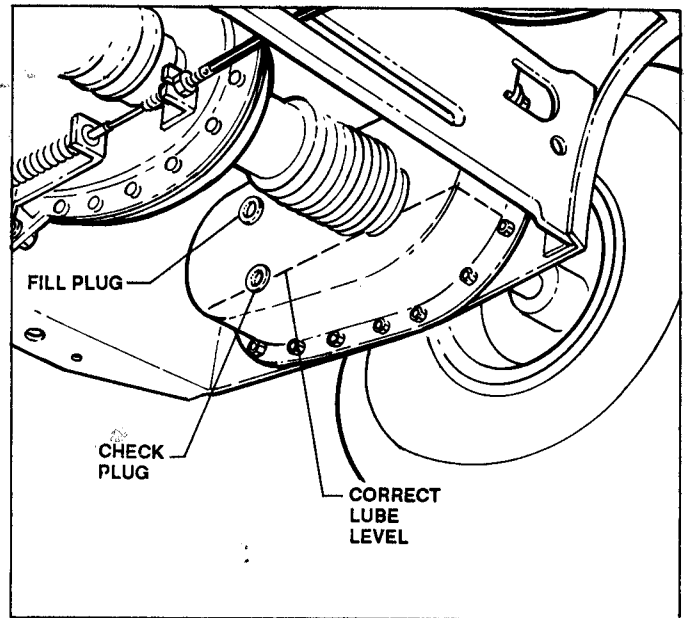

FIGURE 16
- Remove CHECK PLUG on inside of unit shown in Figure 16 to check level of oil. Add **SNAPPER "O"** grease as needed thru upper fill hole to bring the level up to the lower edge of the CHECK PLUG HOLE. Reinstall **NEW** plugs after servicing.